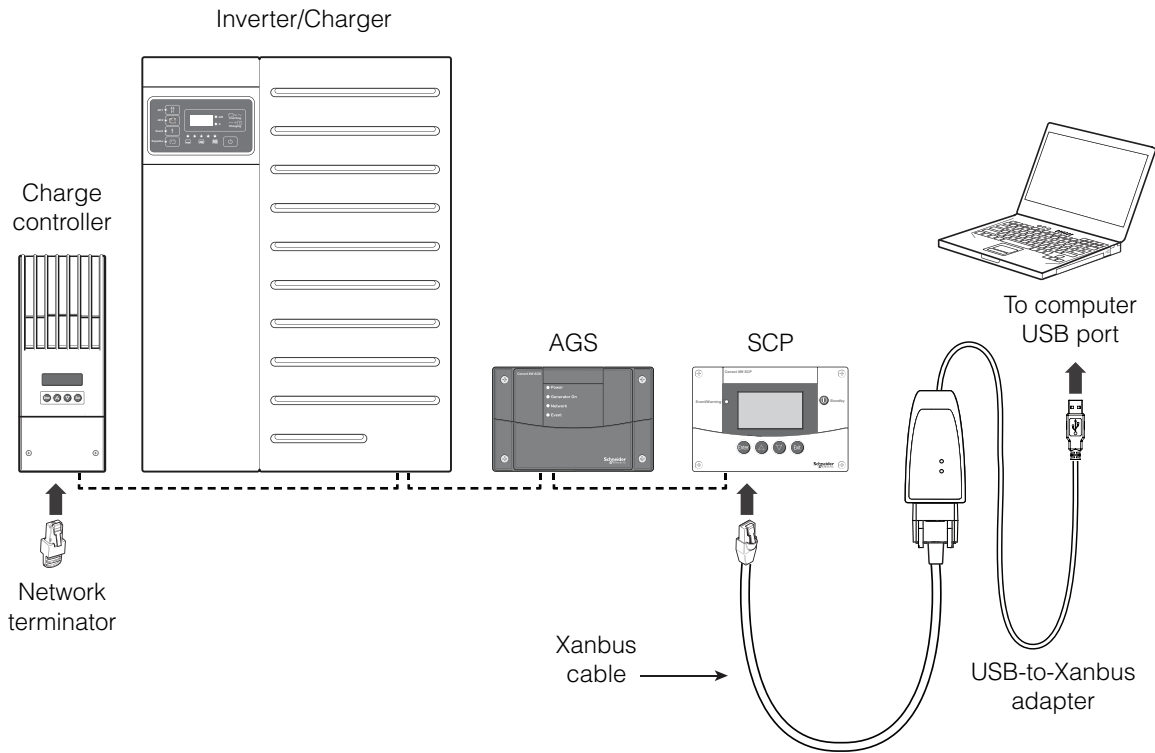

Figure 1-6 Connect USB-to-Xanbus Adapter to Xanbus Network
3. Connect the other end of the Xanbus cable to an open port on the Xanbus network. (See Figure 1-6 on page 1-11 for an example of a Xanbus network with the USB-to-Xanbus adapter connected.)